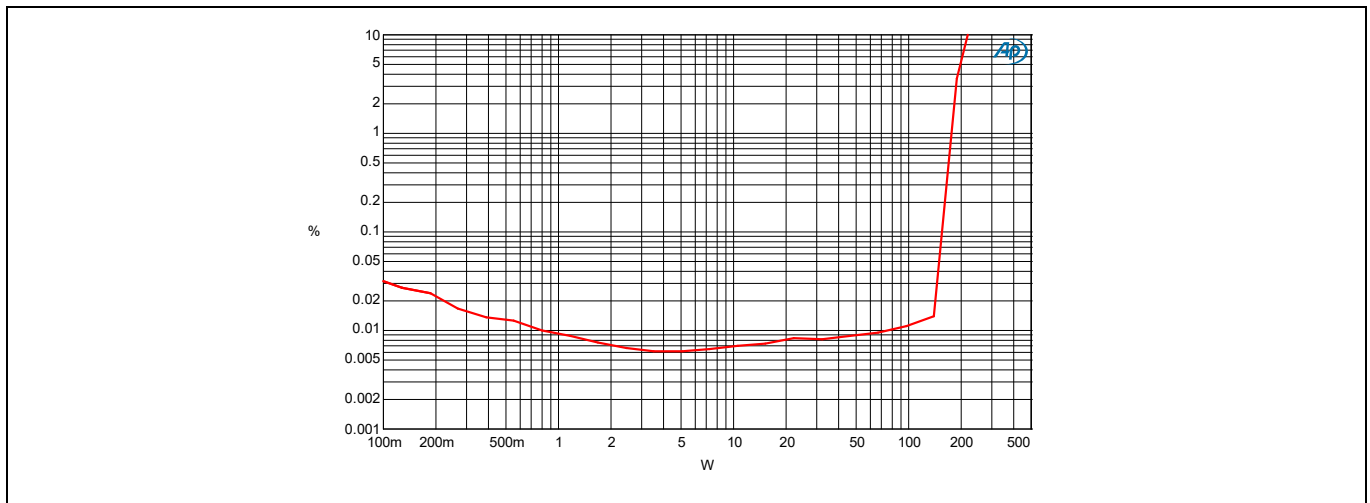

Figure 4 Power vs. THD+N $4\ \Omega$ load
11. Run the AP test as shown in Figures 4 to 11, below.